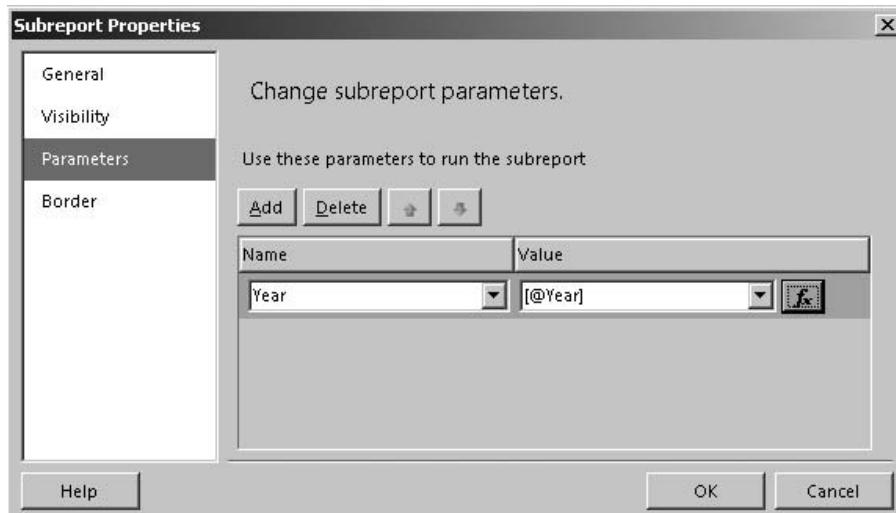

Figure 16-58 The Parameters page of the Subreport Properties dialog box
90. The Parameters page of the Subreport Properties dialog box appears as shown in Figure 16-58.